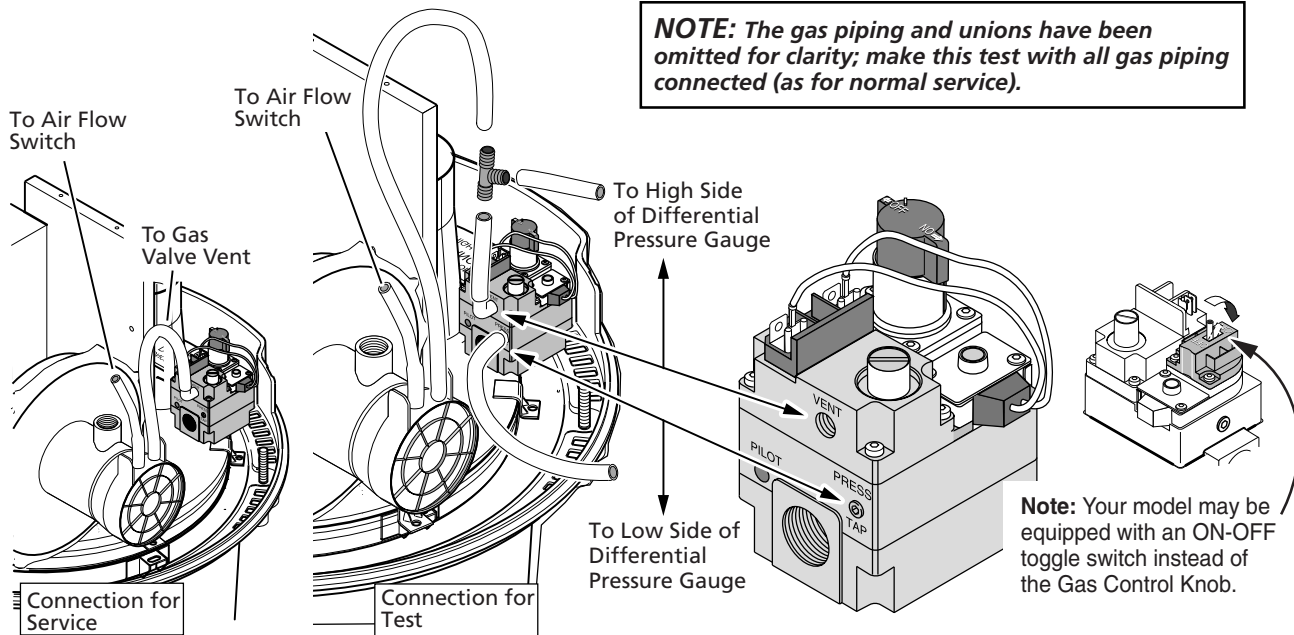

FIGURE 21: Connect Gas Valve to End Cap Air Orifice
The combination gas valve incorporates dual shut-off valves and a negative-pressure regulator. For proper operation, the regulated pressure at the outlet manifold of the valve must be $0.2''$ (0.5cm) wc below the reference pressure at the blower mixer inlet, and the gas valve 'VENT' tap must be connected to the endcap air orifice as shown in Figure 21 (above).
4. Disconnect the tube from the Gas Valve 'VENT' port. Connect it to a tube with a tee running to the high side of a differential pressure gauge and to the blower's air orifice grille (See Figure 21, above).